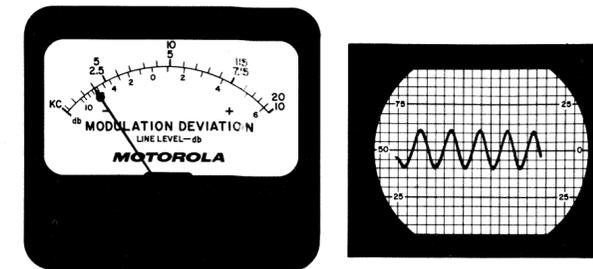

Figure 1.
- (1) If the transmitter is a part of "Private-Line" station remove the "Vibrasender" resonant reed from its socket.
- (2) Connect the oscilloscope to the monitor oscilloscope terminals, and set up the monitor controls in accordance with the monitor instruction manual.
- (3) Turn the IDC control on the transmitter chassis to the full clockwise position.
- (4) Feed a 1000 Hz test tone into the transmitter audio input. Modulate the transmitter with this tone so adjusted that the deviation as read on the FM monitor deviation meter is  $\pm 2$  kHz. An audio oscillator must be used for generation of this tone, since a sinusoidal waveform is very important. The Motorola TEK-1A Transistorized Tone Generator is excellent for this purpose.
- (5) Adjust the vertical gain of the oscilloscope so that the total recovered (peak-to-peak) audio pattern occupies some convenient height, e.g., four small squares, as shown in figure 1.